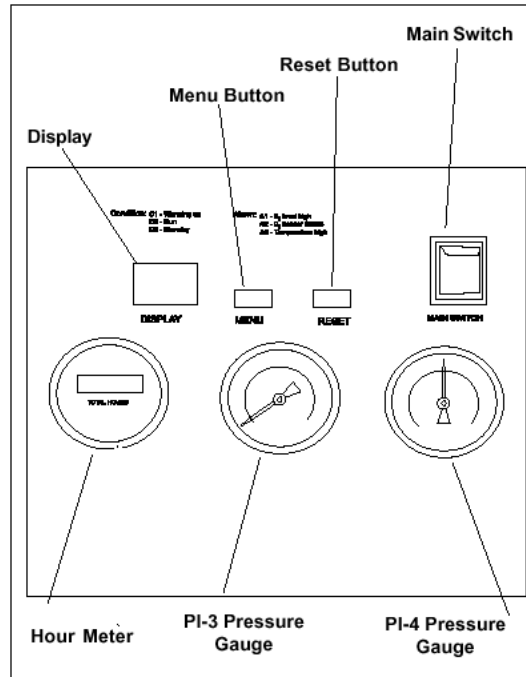

Figure 2. Control Panel
1. Make sure the main switch is in the OFF position (Figure 2).